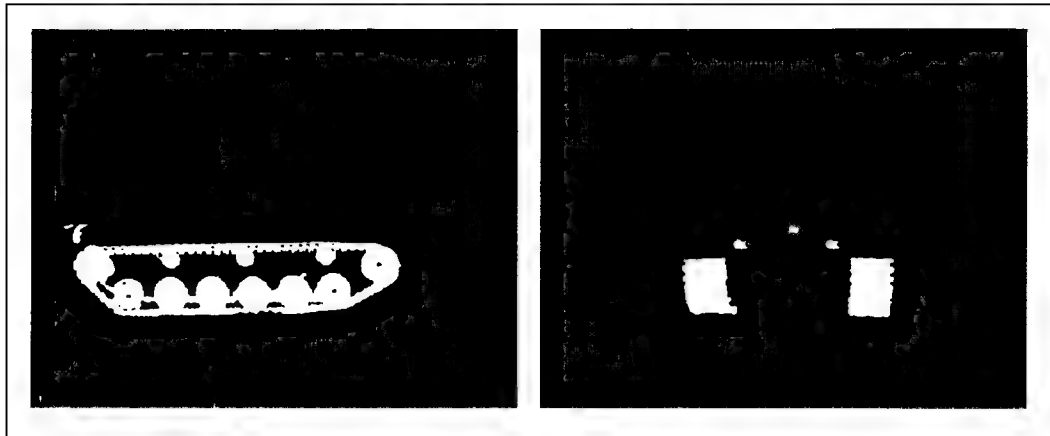

Figure I-2. M60A1 main battle tank.
- Figure I-2. M60A1 main battle tank (page I-5).